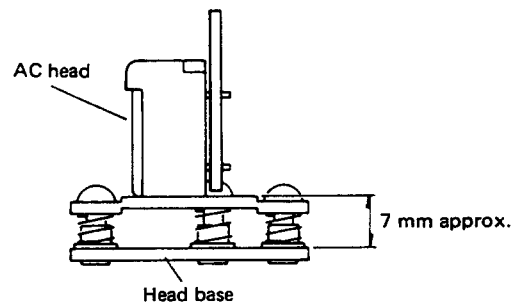

Fig. 2-12 A/C head installation
3. Install a new A/C head at the position indicated in Fig. 2-12.